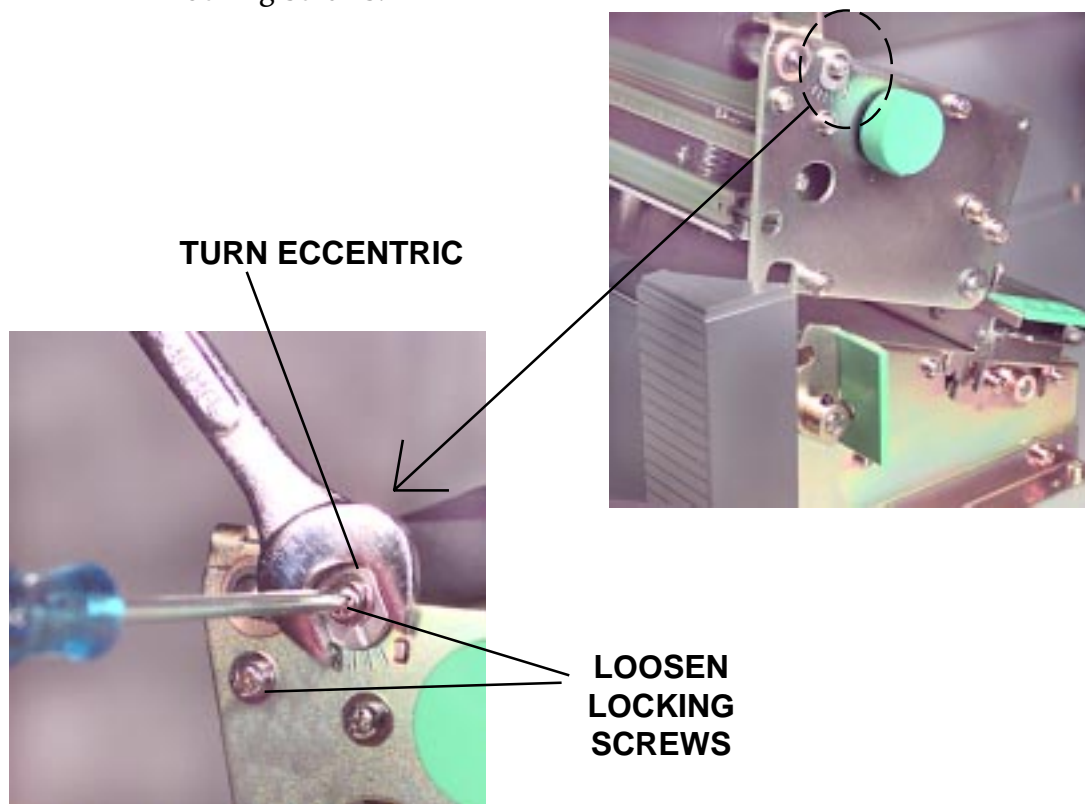

Fig. 9
3.	Loosen the locking screws. Fig. 9